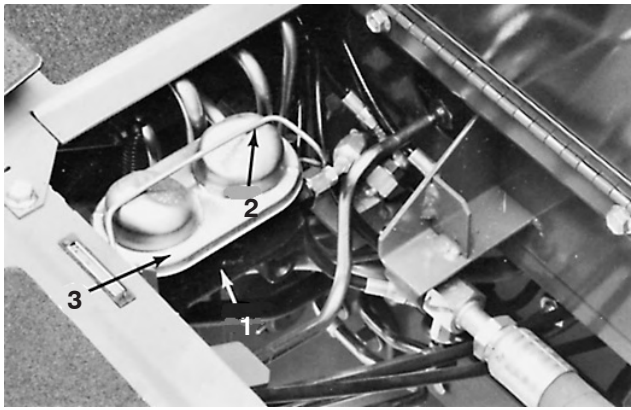

Figure 60
2. Snap cover bail off cover and remove cover from master cylinder (Fig. 60).